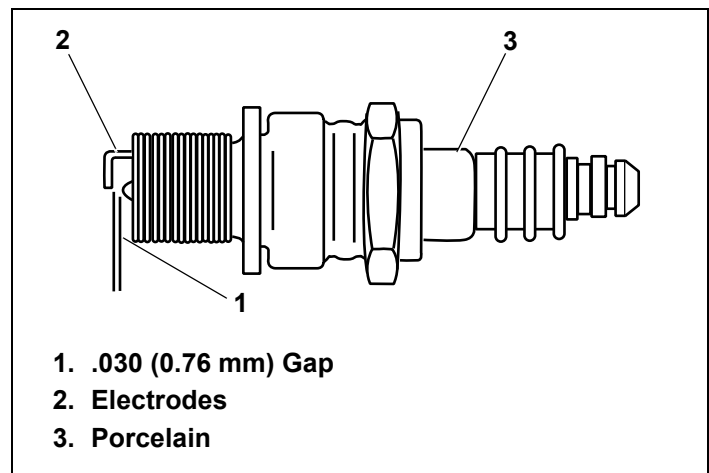

Figure 23. Resistor Spark Plug
4. Check electrode gap with wire feeler gauge and set gap to .030 (0.76mm) if necessary. See Figure 23.